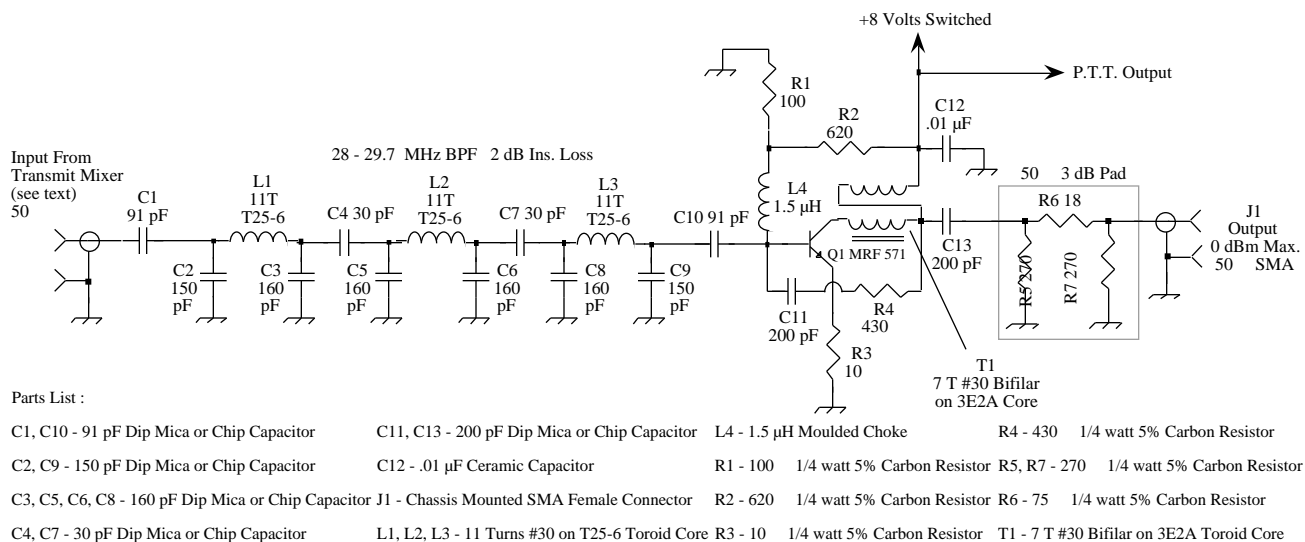
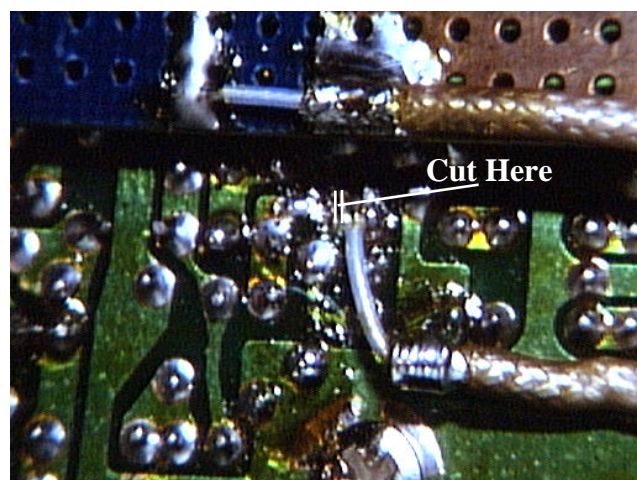
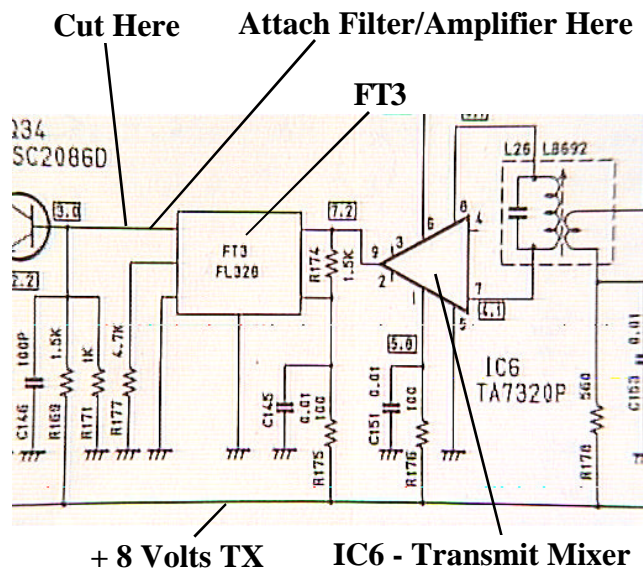

Figure 29.
Figure 31.
Figure 33.
*Close up view of the 10-Meter transmit mixer P.C. Board circuit connections, for both the HTX-100 and the HR-2600, showing where to cut the trace and solder the coax for the filter/amplifier (see figures 33 and 34 for schematic references).*
Using any single sided p.c. material (I used perf board), construct the circuit in figure 29. The circuit is not too critical and all I used is an X-Acto® knifeto cut the traces on the board.
Figures 31 and 32 illustrate the circuit board change and figures 33, and 34 are the schematic references for the two types of transceivers.
Next connect a wire from the switched +8 volt line in your transceiver (see figures 33 and 34) to the +8 volt input of the filter/amplifier assembly as shown in figure 29.